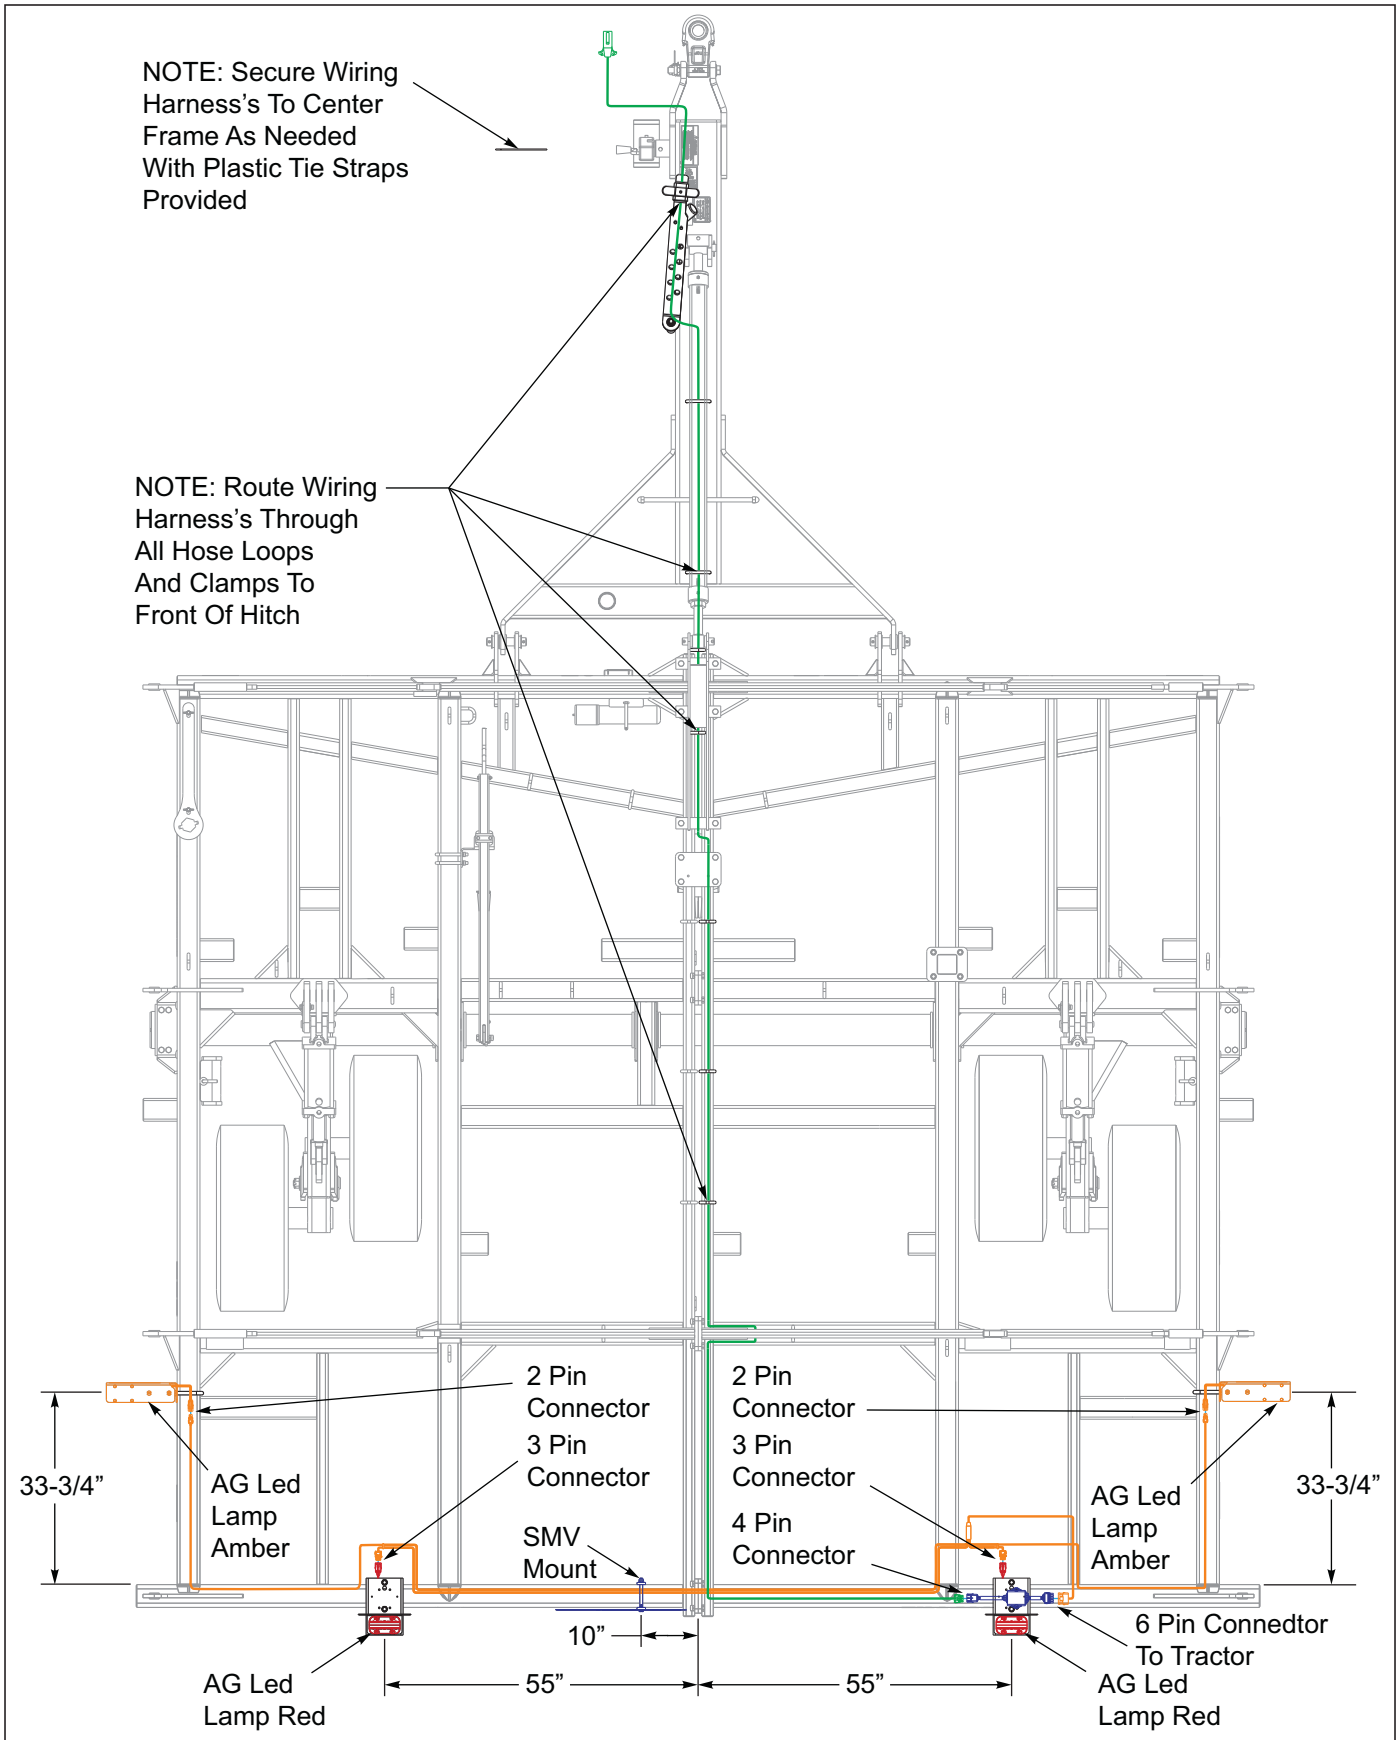

Figure 3-30: Light Brackets & SMV Placement
5. **See Figures 3-30** for light bracket placements.
11. **See Figures 3-30** for smv placement, wiring harness routing and connector locations.